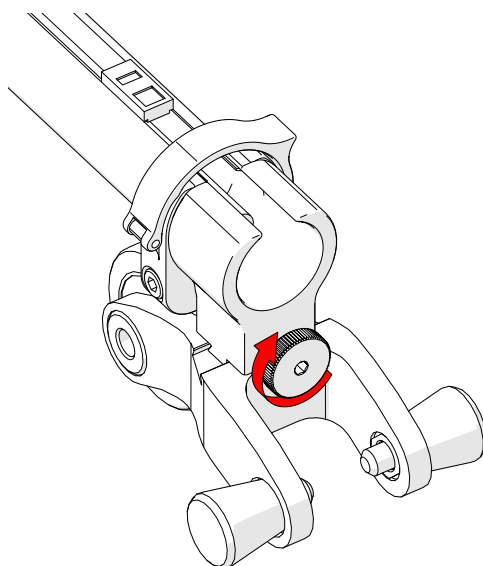

Fig. 32 - Tighten knob
2. Once centred on the dovetail link, tighten the cable management's dovetail mount knob (*Fig. 32*).